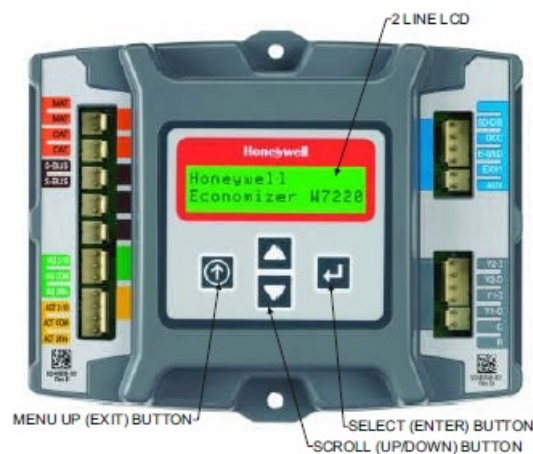

Figure 7
- The four navigation buttons illustrated in Figure 7 are used to scroll through the menus and menu items, select menu items, and change parameter and configuration settings.